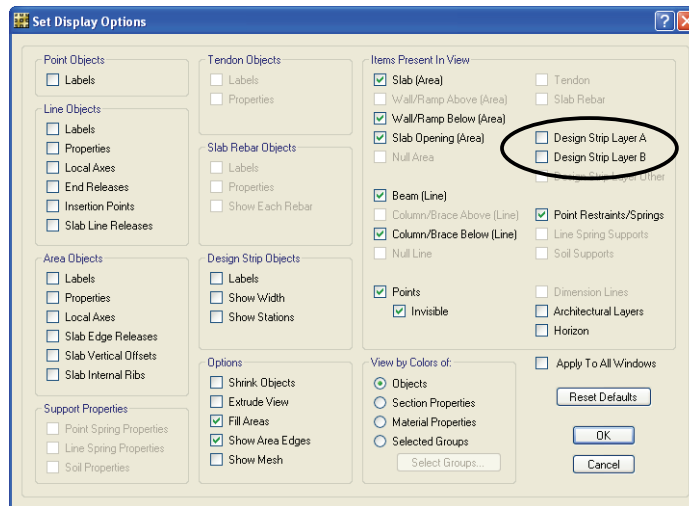

Figure 33 Set Display Options form
- A. Click the **View menu > Set Display Options** command. When the Set Display Options form displays, uncheck the *Design Strip Layer A* and *Design Strip Layer B* check boxes in the Items Present in View area, as shown in Figure 33. This action will turn off the display of the design strips.